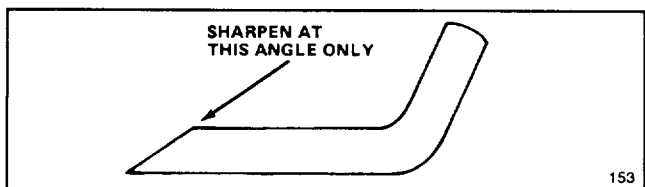

Figure 22
6. **SHARPENING BLADE**—Using a file, sharpen top side of blade and maintain original cutting angle (Fig. 22). The blade will remain balanced if same amount of material is removed from both cutting edges.